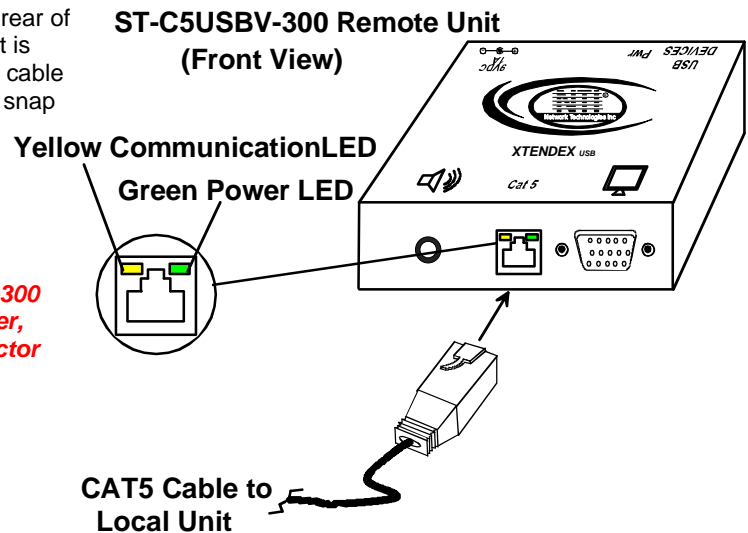

Figure 8- Connect CAT5 cable to the Remote Unit
Connect the CAT5 cable to the “CAT5” port on the rear of the Remote Unit (see Fig. 8). (If an RJ45 wall outlet is being used, connect the other end of the extension cable to it.) When properly inserted the cable end should snap into place.
4. Turn ON the CPU and monitor(s). The CPU and monitor(s) should each react as if they were directly connected to each other. The yellow communication LEDs on the Remote and Local Units (see Fig. 8) should blink indicating there is proper communication between them.